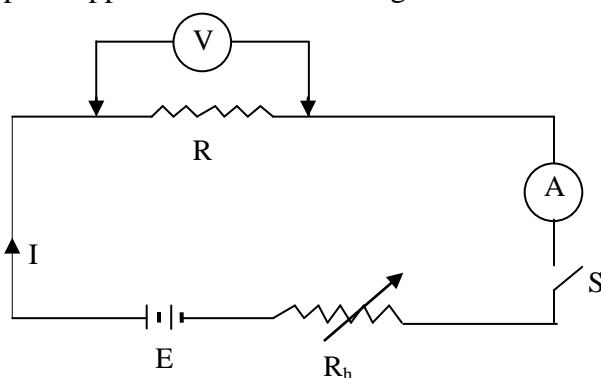

Figure 29
- (a) Set up the apparatus as shown in Figure 29.